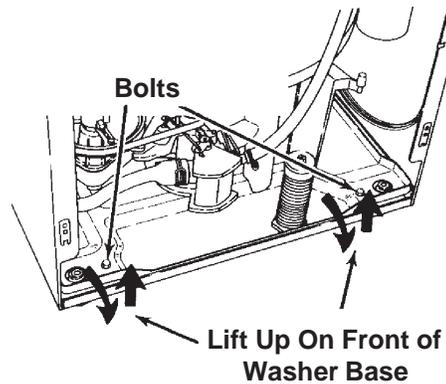

Fig. 5-11
8. To remove the entire washer assembly from the unit, first remove the two bolts securing the washer base to the washer/dryer base. (Fig. 5-11)